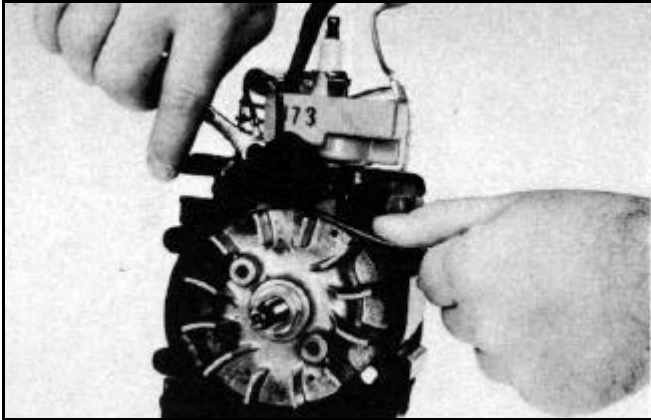

Figure 230
5. The C.D.I. module legs should be gapped at .008 - .012 inch (.2 - .3mm) from the flywheel magnets (Figure 230) and the module mounting screws tightened at 25 - 35 in-lb (28 - 40 kg cm).